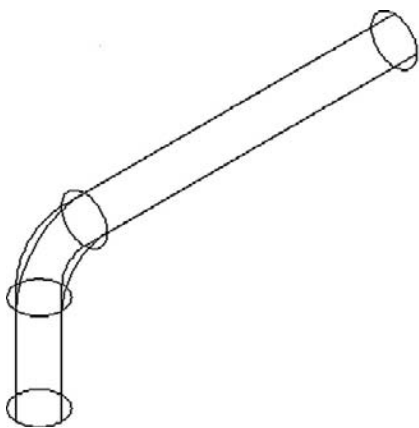

FIGURE 25.37
Step 4. Click to select the path itself. You see what is shown in Figure 25.37, in wireframe.